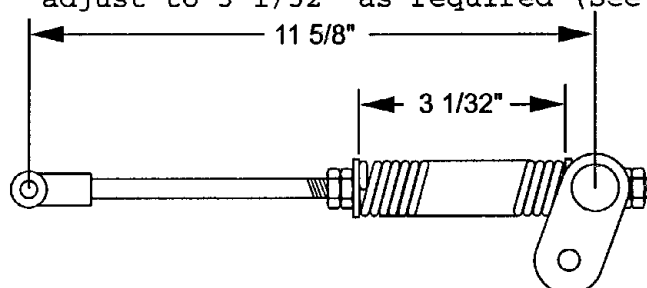

FIG. 8
- b) Check the compression spring length and adjust to 3 1/32" as required (See Figure 8).